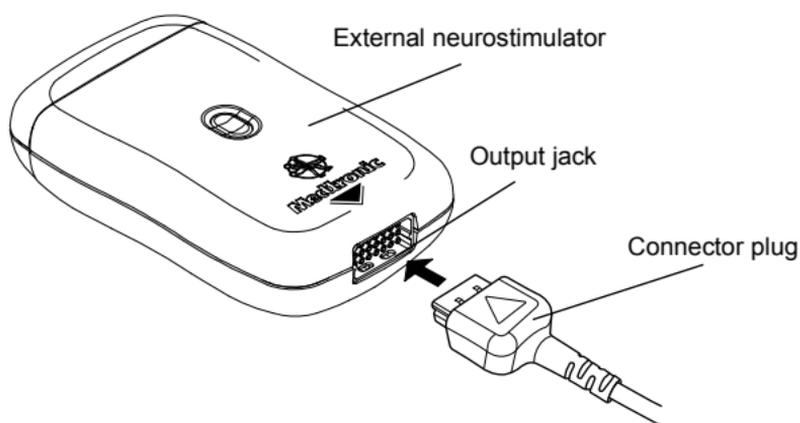

Figure 3. Connecting the Multi-lead trialing cable to the ENS.
12. After verifying that the ENS is turned off, push the connector plug into the output jack of the ENS (Figure 3).